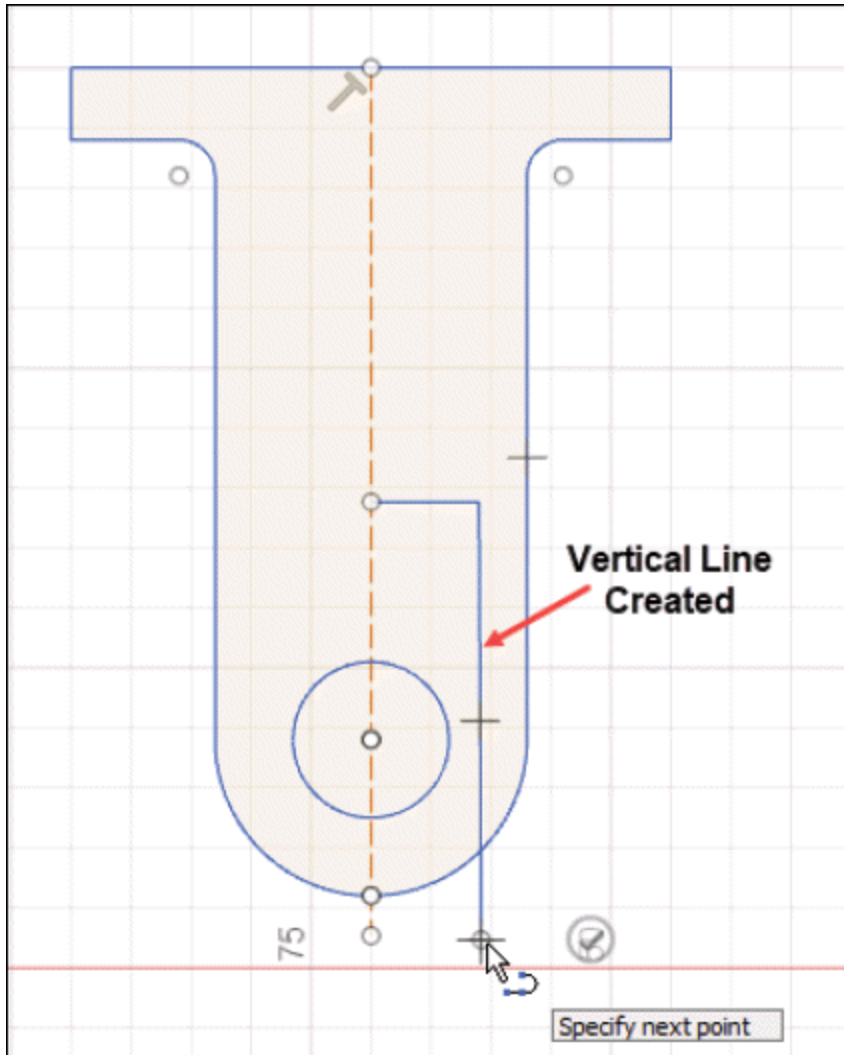

Figure-118. Vertical line created
- Move the cursor vertically downwards and click when line passes the arc; refer to Figure-118.